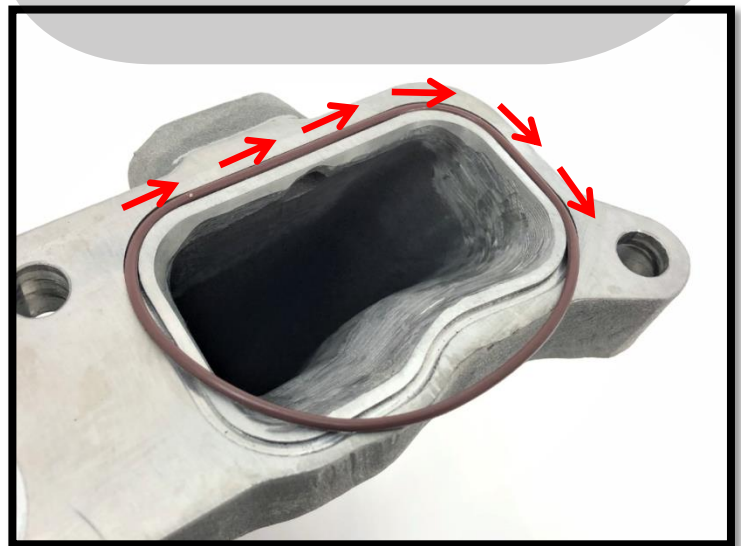
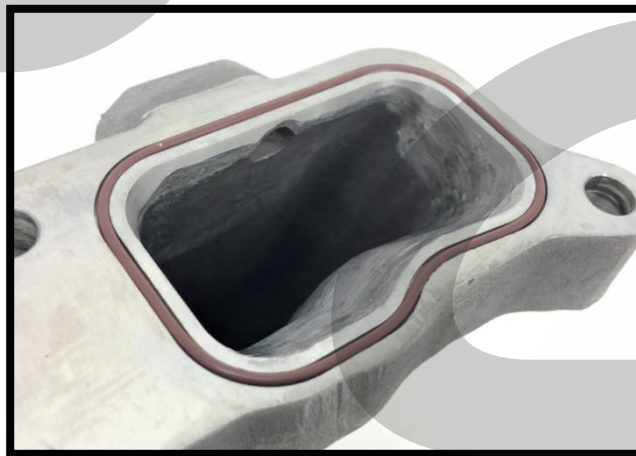

Figure 7e
Figure 7f
- e) Hold the O-ring in the corner, then using a finger, work the O-ring around the groove until it is seated in the groove. Follow the image in **Figure 7e**. Completed O-ring install will look like **Figure 7f**.